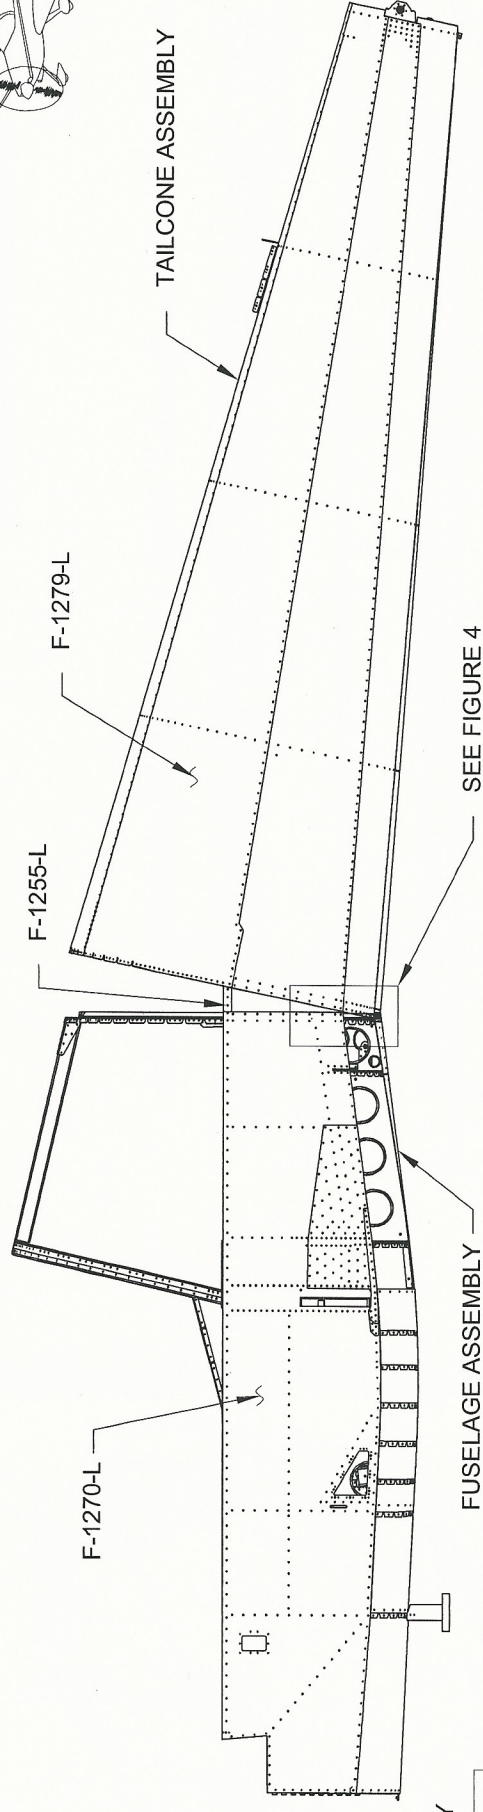
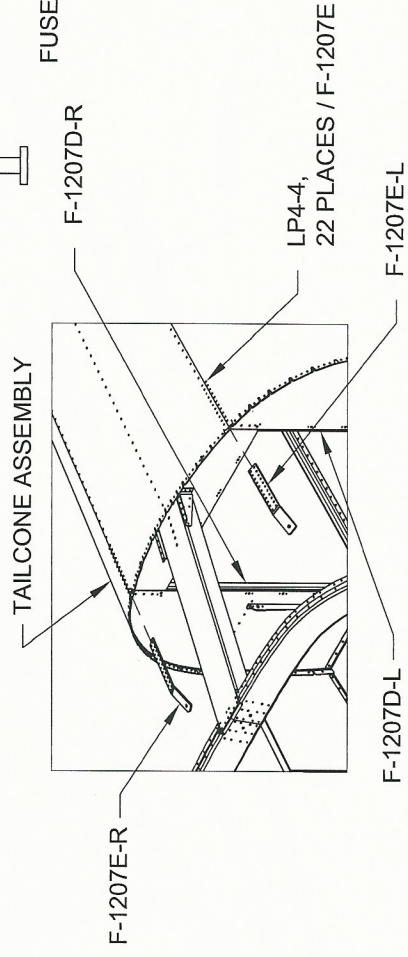
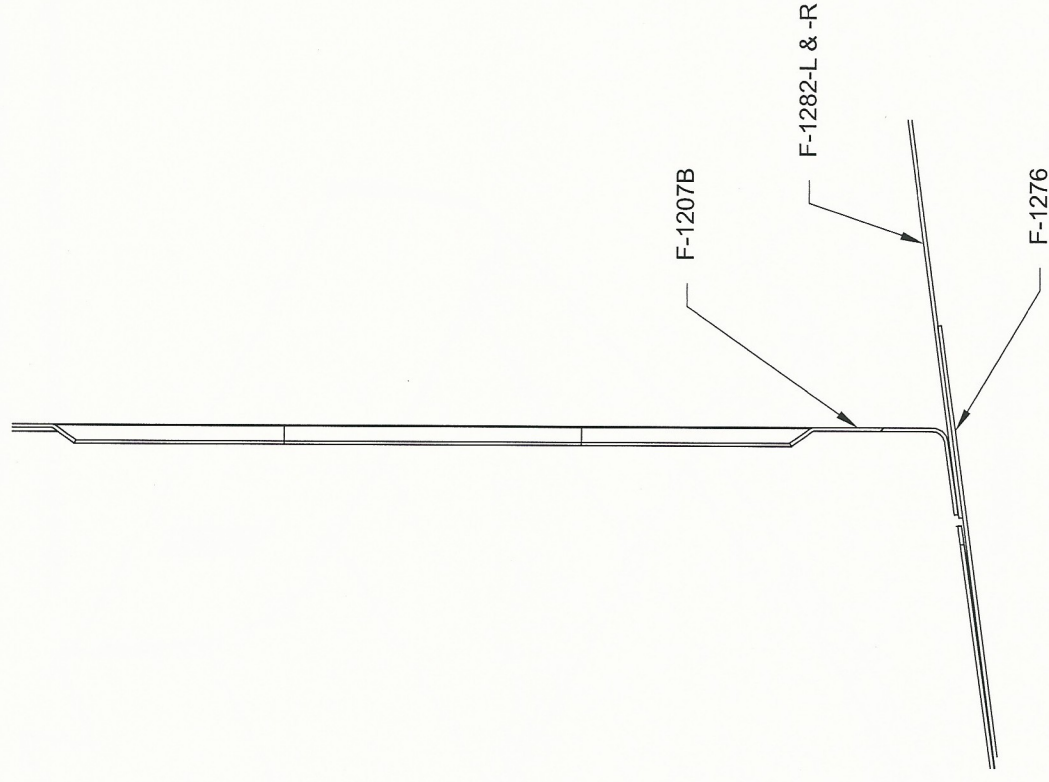

FIGURE 1:
FIGURE 2:
FIGURE 4:
Step 1: Support the Fuselage and Tailcone Assemblies on saw horses. Bring the Tailcone Assembly to the aft of the Fuselage Assembly. Place the forward edge of the F-1282-L & -R Bottom Skins on the aft edge of the F-1276 Bottom Skin as shown in Figure 1. Insert the forward edge of the tailcone bottom skins between the F-1207B Baggage Bulkhead and the fuse bottom skin as shown in Figure 4. Cleco the tailcone bottom skins to the fuse bottom skins. Lift the aft end of the tailcone and guide the tailcone skins outboard of the F-1255-L & -R Longerons and inboard of the F-1270-L & -R Fuselage Side Skins. The F-1279-L & -R Upper Skins are outboard of the fuselage side skins, see Page 25-04, Figure 2. Cleco the lower half of the Tailcone Assembly to the Fuselage Assembly in about ten places. Shake the aft end of the Tailcone Assembly up, down, left and right to ensure that the clecoes are set completely.
Step 2: Cleco the F-1207E-L & -R Shoulder Strap Lugs to the inboard surface of the Tailcone Assembly skins as shown in Figure 2.
Step 3: Rivet the F-1207E-L & -R Shoulder Strap Lugs to the Tailcone Assembly skins using rivets called out in Figure 2. Capture the upper flange of the F-1207D-L & -R Baggage Bulkhead Channels when riveting the two forward holes of the shoulder strap lugs.